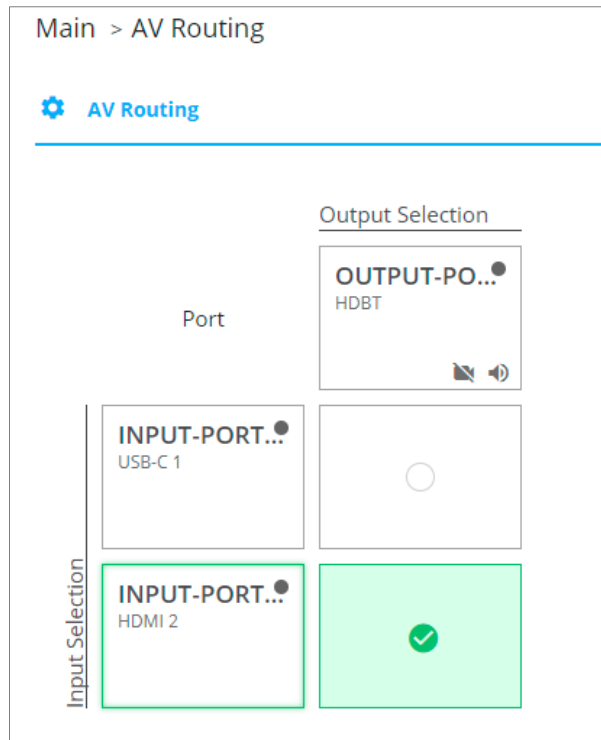

Figure 10: Main > AV Routing Page
- On the Main > AV Routing page (Figure 10), click the audio icon under the output name and mute or adjust the audio as needed.
- On the Main > AV Routing page (Figure 10), click the video icon under the output name.